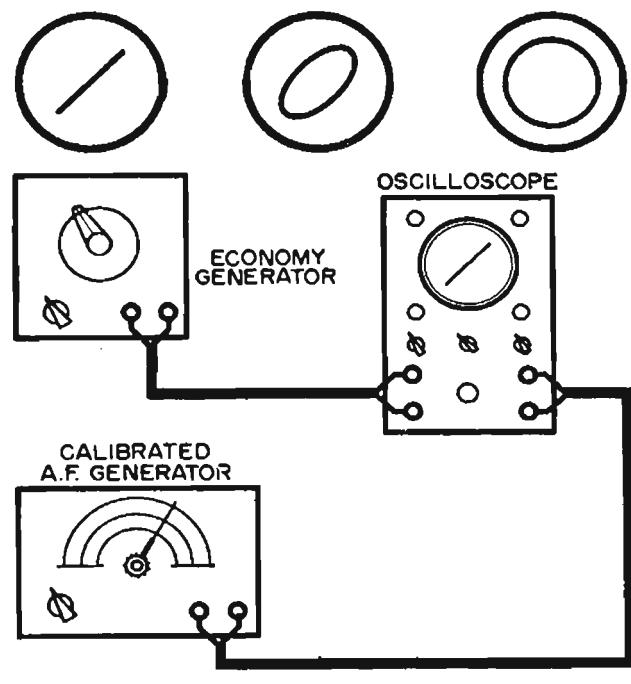

Fig. 128 (1)—Two possible methods of calibrating the audio generator.
Two possible methods of calibration are shown in Fig. 128 (1). It is assumed that you can borrow or obtain the use of the necessary equipment long enough to calibrate the audio signal generator. The method shown in (A) is the simplest. Feed the audio generator into an audio-frequency meter which will read the signal output frequency directly.
Fig 128 (2)—Three views of the signal generator chassis showing placement of major components: (A) bottom view; (B) right side view; and (C) left side view. Layout is critical.